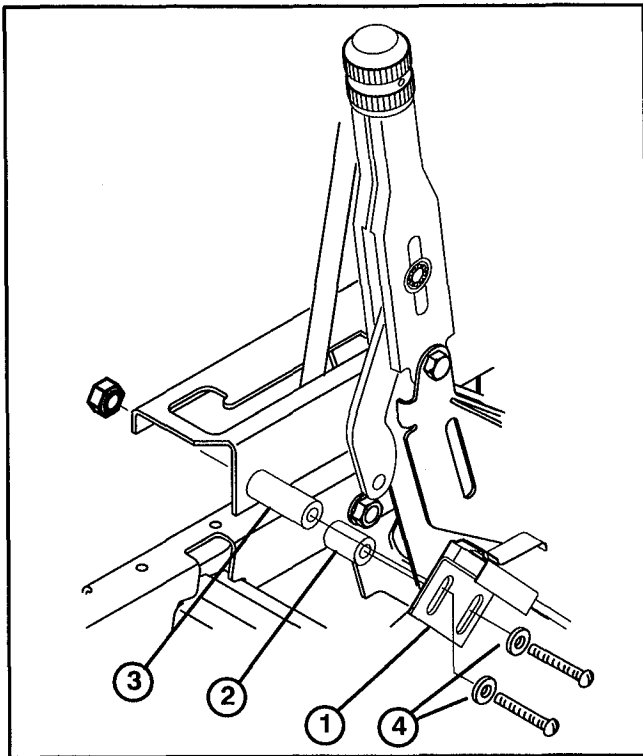

Figure 6
28. Loosely mount parking brake switch to vehicle console with (2) spacers, #10-24 screws, washers and nuts, as shown in figure 6. Different length spacers are used to mount switch level as shown in figure 6.